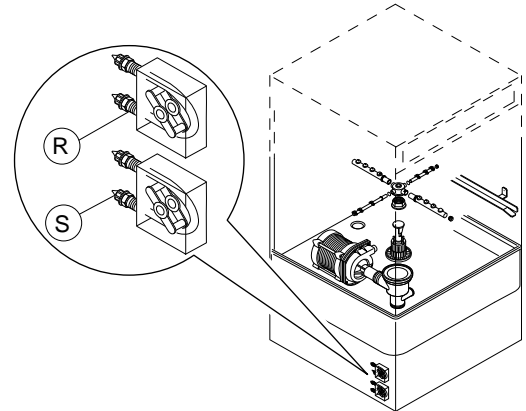

Fig. 1 Automatic dispenser overview
1. Dishwasher with incorporated liquid detergent dispenser (Fig. 1)
2. Dishwashers with incorporated peristaltic rinse-aid dispenser pump (Fig. 1)